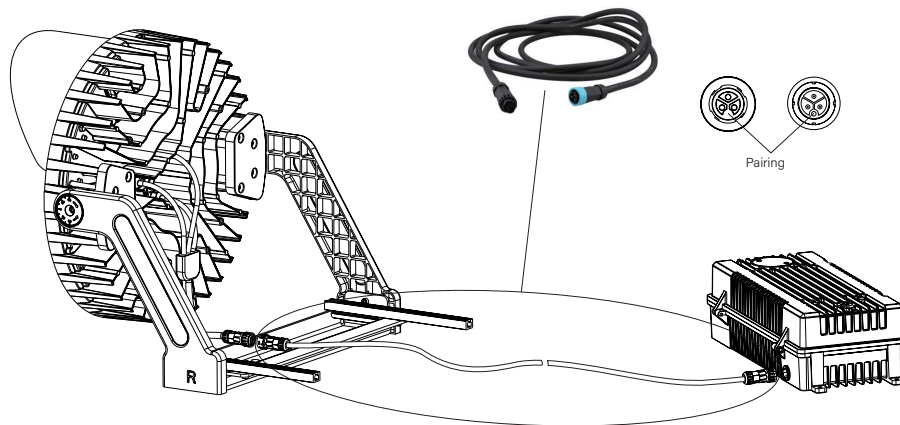

Figure 28
- Connect the sports light head to the driver box with an extension cord (sold separately). (Figure 28)